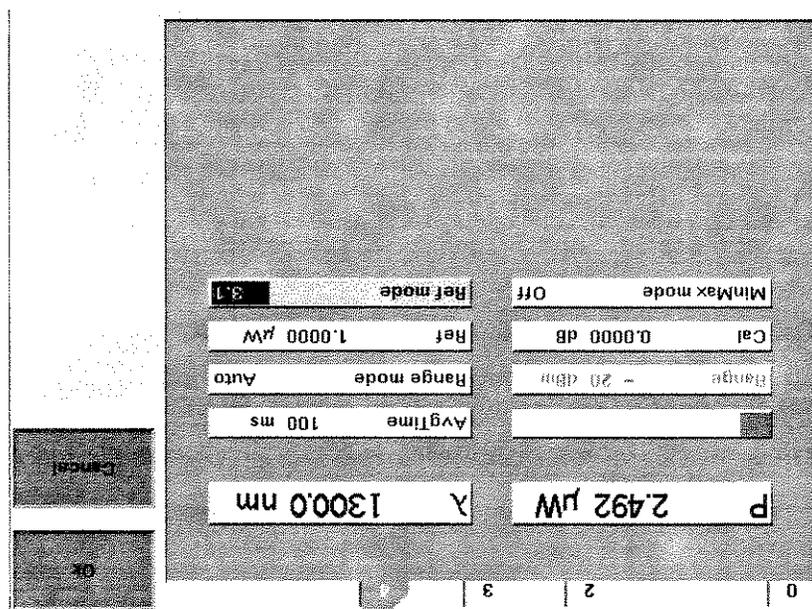

Figure 40 Referencing Another Channel
- 3 Move to the channel number you want to reference, using the cursor key, and press *Enter*. For example, in Figure 40, you could choose 3.1 (for channel 3.1).